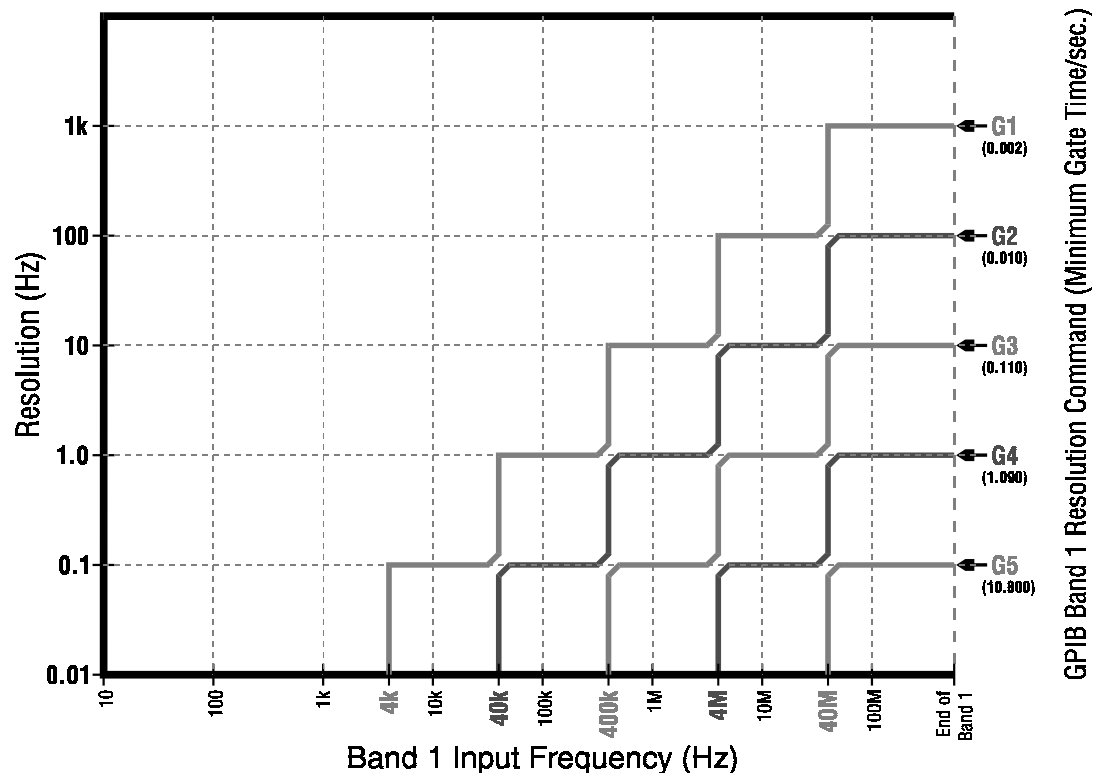

Figure 3-5. Band 1 Resolution Chart.
3-13.3. Band 1 Resolution. Resolution is defined as the value represented by the least significant digit (LSD) displayed. The Frequency resolution in Band 1 is a function of both **the resolution selected and the actual input frequency**. This is true for both manually selected Band 1 resolution (using the resolution up and down arrows on the front panel—one to five zeros displayed) and for Band 1 resolution set over the GPIB buss (via 488 commands, G1–G5, one to five zeros displayed). The accompanying chart, Figure 3-5, cross-referencing Maximum Resolution (Hz); Band 1 Input Frequency; and GPIB Band 1 Resolution Command (Minimum Gate Time); is an attempt to illustrate the resolution (in Hertz) of Band 1 frequencies for various gate lengths selected either manually or over the GPIB buss. The gate length number (e.g. G3) corresponds to the number of zeros displayed when there is no input frequency. For example, without an input signal in Band 1, push the resolution arrows till four (4) zeros are displayed—this is the G4 gate setting (1.090 sec. minimum gate time). If a 10 MHz signal is then connected to the Band 1 input, the counter will display 10000000.0 Hz (10 MHz with a 0.1 Hz resolution at a minimum gate time of 1.090 sec.). To compute the actual resolution for a selected gate time and measured frequency use the formula $(1/(1.2^8 \times \text{GATE TIME})) \times \text{FREQUENCY} = \text{RESOLUTION}$ (or 0.01 Hz, whichever is larger); where GATE TIME is in seconds and RESOLUTION is in Hertz. Resolution of 0.001 Hz to 1 Hz is given automatically for frequencies less than 10 kHz.
3-13.4. Band 2 Resolution and Blanking. Resolution of 1 Hz to 1 MHz, in decade steps, is available in Band 2. Resolution once selected is stored in memory until changed or power is removed. If 0.01 Hz or 0.1 Hz resolution is selected in Band 1 and you enter Band 2, the resolution will default to 1 Hz in Band 2...but when you return to Band 1, the previously selected resolution will be active. **Note:** Selecting 0.01 Hz or 0.1 Hz resolution in Band 1 may require up to a 10 second gate time to measure the signal (see figure 3-5). During this gating time-out, the display will read "0" until measurement is achieved.